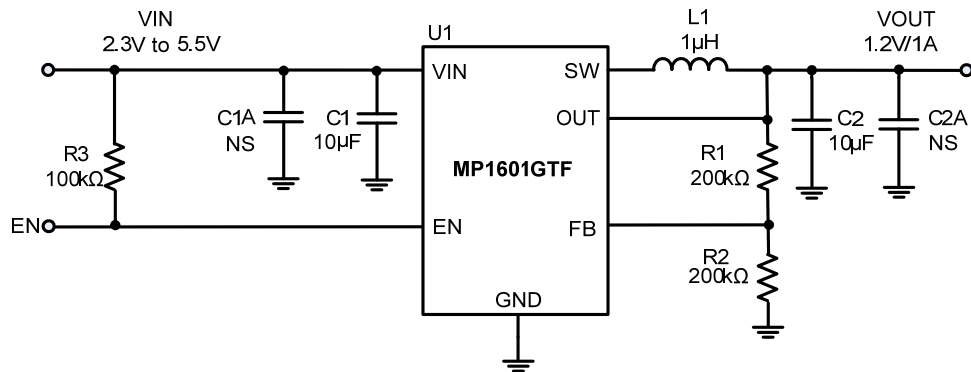

Figure 12: Typical Application Circuit for the MP1601GTF
The external resistor divider sets the output voltage (see the Typical Application Circuit on Figure 12). Select the feedback resistor (R1), typically between 40kΩ to 200kΩ, to reduce the VOUT leakage current. There is no strict requirement on the feedback resistor. R1 > 10kΩ is reasonable for most applications. Calculate R2 with Equation (2):